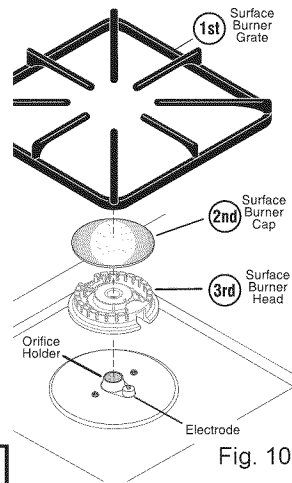

Fig. 10
- Remove the top grates and burner caps (See Fig. 10).